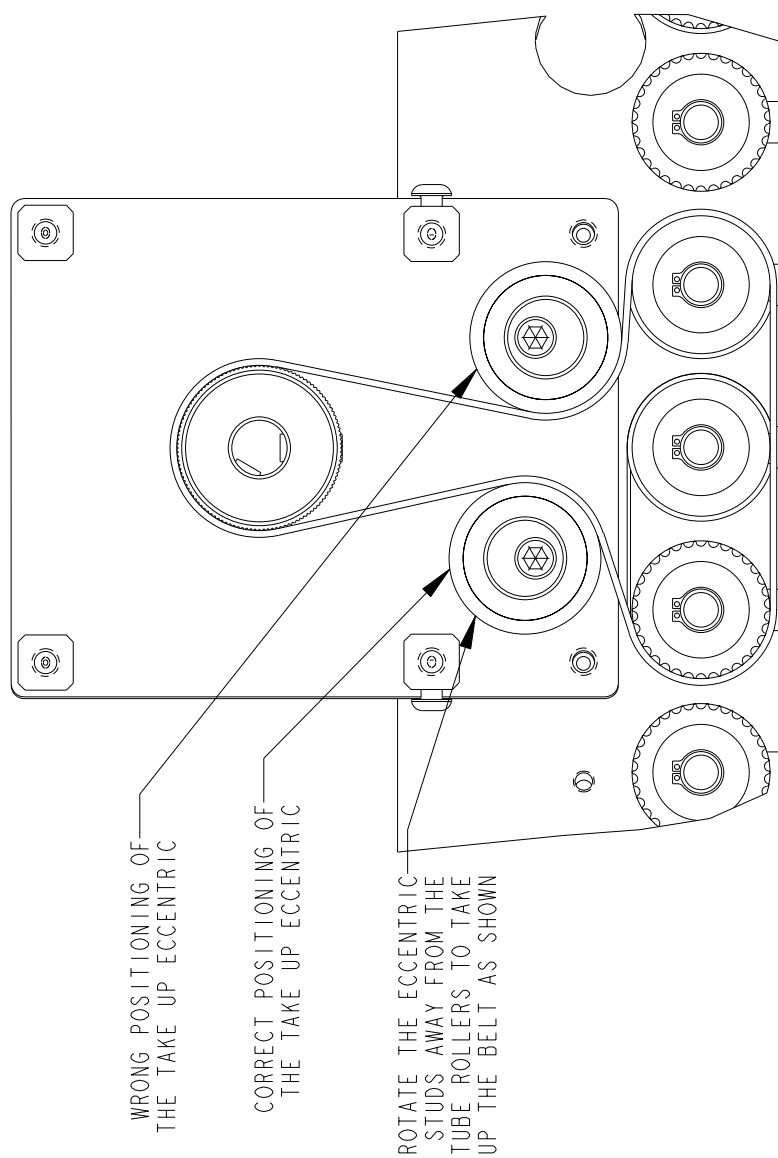

FIGURE 8.0
6. Turn the 1/8" Allen wrench that is in the take up stud tool hole to adjust the tension of the drive belt. Be sure to tighten the belt by rotating the eccentric studs away from the tube rollers and toward the main drive pulley as shown in (Figure 8.0).
23. Be sure to tighten the belt by rotating the eccentric studs away from the tube rollers and toward the main drive pulley as shown in (**Figure 8.0**).